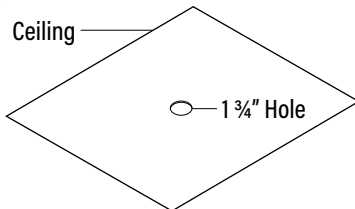

Fig. 2
2. Put the back thread through the hole, secure it by the gasket, plate and hex head locknut. Make sure there is no gap between the plate and ceiling. (Fig. 2)